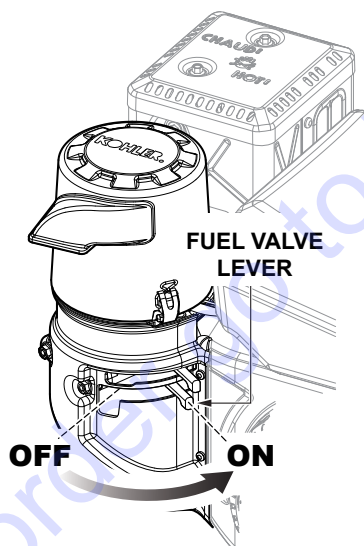

Figure 14. Fuel Shut-Off Lever
1. Place the fuel shut-off lever (Figure 14) in the **ON** position.